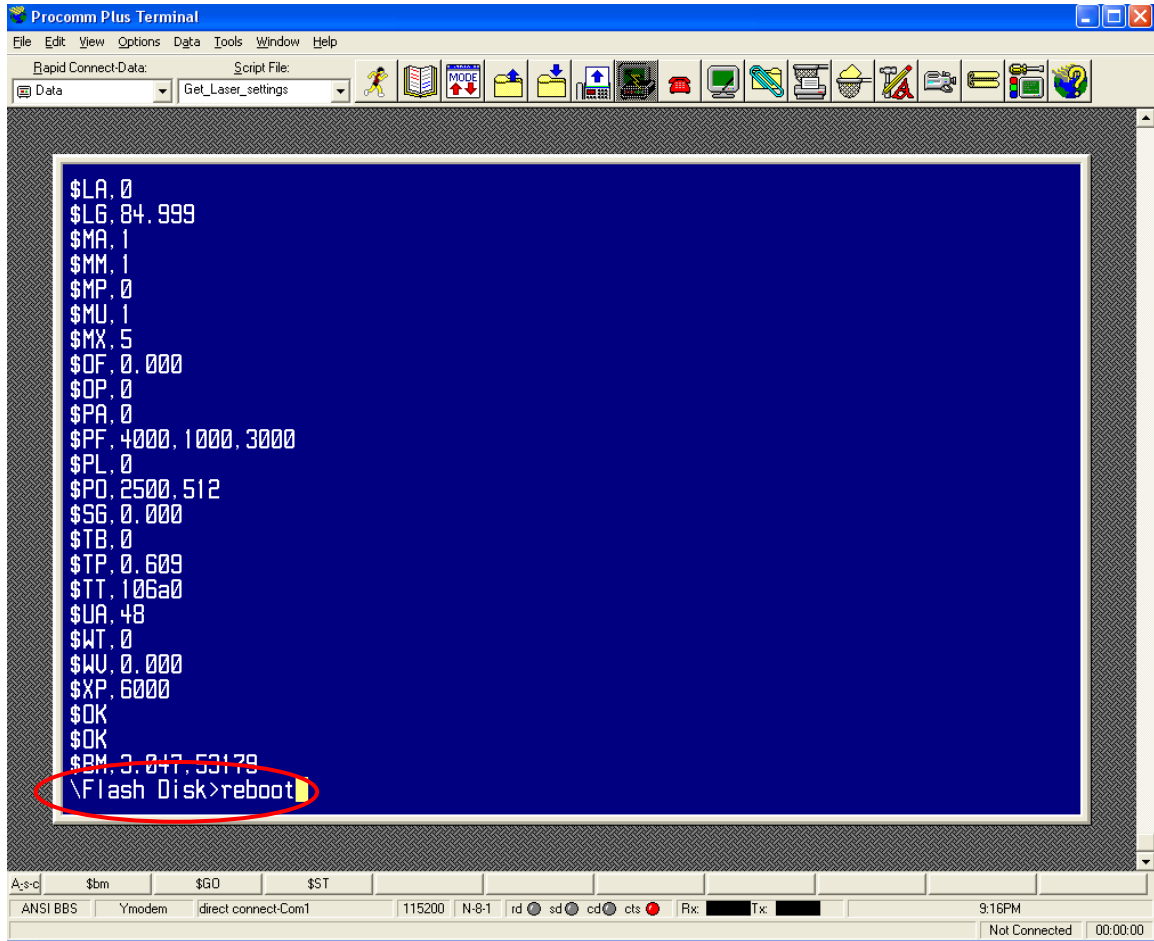

Figure 27
13. Type **reboot** and then press ENTER to restart the Xpert (fig. 27).